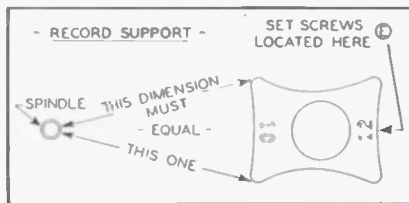

Fig. 9. Correct platform alignment.
3. Slip a standard 10-inch record over the spindle and check to make sure it clears the lip of the platform at all points. (See Fig. 9.)
4. If one point on the lip extends farther than the other, the position of the record support may be adjusted after loosening the two Bristol set screws (E), located directly under the numeral "12" on the record support. (See Fig. 9.)